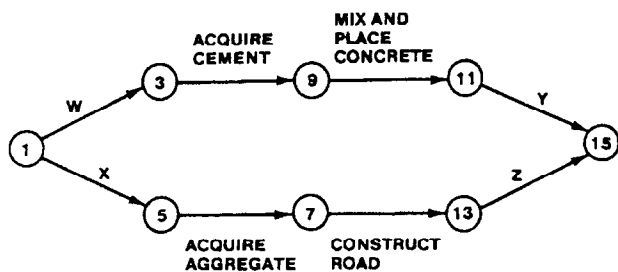

Figure G-4. Example CPM diagram
construct a gravel road and pour concrete nearby. Assume that the same gravel and rock should be used for both the road surface and the concrete. The CPM diagram might look like figure G-4.
(2) As shown in figure G-4, the road depends on having the aggregate, and the concrete mixing depends on having the cement; however, mixing the concrete also requires having the aggregate. Therefore, the concrete depends on both the cement and the aggregate. The figure also shows that constructing the road depends on acquiring the cement, even though cement is not required for its construction. According to the diagram, road construction would be constrained unnecessarily.